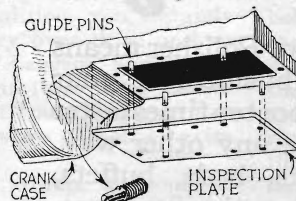

Fig. 7. This guide pin makes it easy to remove oil pan on Ford
**T**HE oil pan on the Ford is bolted to a steel ring that is placed inside the lower section of the crankcase and, as this ring is not fastened in place except by the bolts, it is rather a difficult matter to start the first two bolts, because the ring slips out of position so easily. Trouble along this line can be eliminated easily by making up a few studs consisting of bolts of the proper size with heads cut off and slotted for a screw driver. As shown in Fig. 7, the studs are screwed into the inside ring through the holes in the crankcase before an attempt is made to fit the oil pan. Then, when the oil pan is slipped into place, the studs hold the inner ring in line while the remaining bolts are screwed home. After that the special studs can be replaced with the regular bolts.